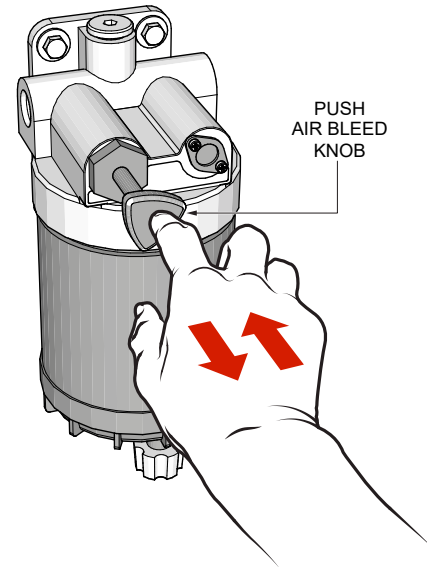

Figure 46. Air Bleed Knob (Active)
3. Next, **PUSH** the air bleed knob (Figure 46) in and out until the fuel system has been completely purged (removal of air) the knob is spring loaded.